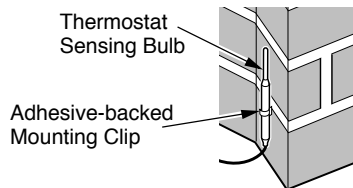
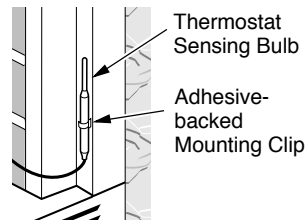
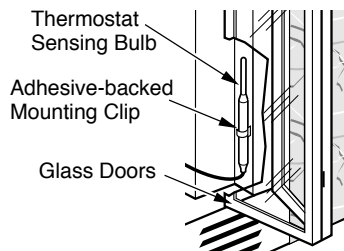

Figure 46 - Locating Thermostat Sensing Bulb on Masonry Fireplace
Figure 47 - Locating Thermostat Sensing Bulb on Factory-built Metal Fireplace
Figure 48 - Installing Thermostat Sensing Bulb Behind Glass Doors
3. The thermostat sensing bulb may be located to the lower right front side of fireplace. Determine location of sensing bulb, but do not mount sensing bulb until step 4. If you have a masonry fireplace, see Figure 46 for location. If you have a factory-built metal fireplace, see Figure 47 for location. If your fireplace has glass doors, position sensing bulb directly behind door gap on right bottom side (see Figure 48).